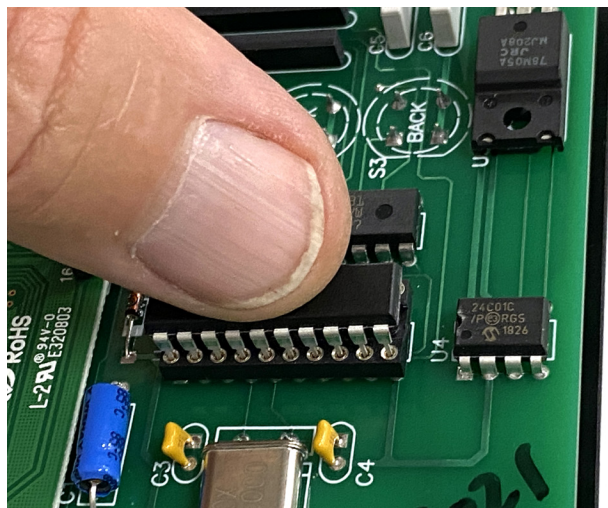

FIGURE 8
9. With the chip pins aligned to the mating holes, gently push down on the chip. First push in the middle of the chip. Then push on each end of the chip until the chip is fully seated on the board connector (see Figure 8).